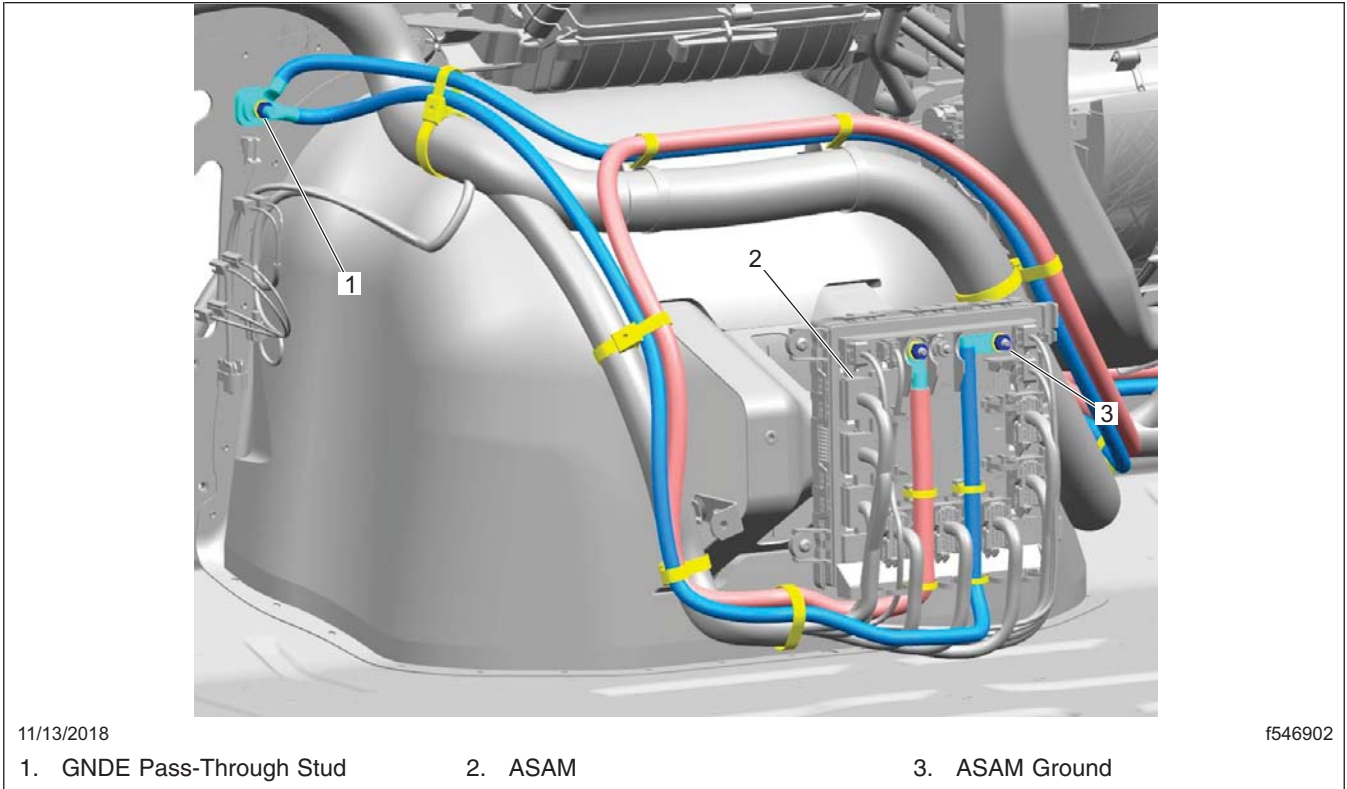
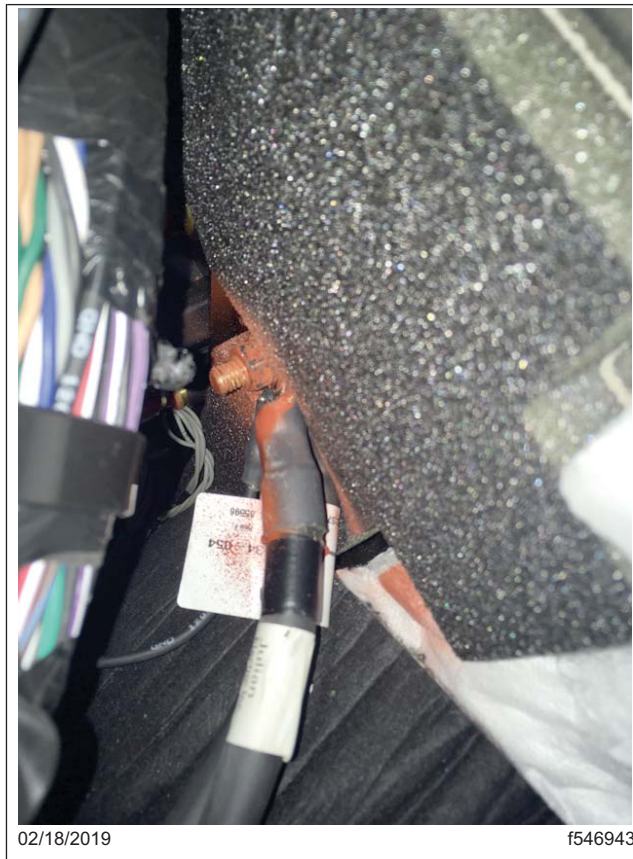

Fig. 6, Ground Locations Inside the Cab
Fig. 7, Cab Side GNDE Pass-Through Stud
14. Inspect the GNDE pass-through stud on the cab side of the frontwall. See Fig. 6 and Fig. 7. Wiggle the cable to check for movement, and service if loose. Torque the stud 14 lbf-ft (19 N·m).